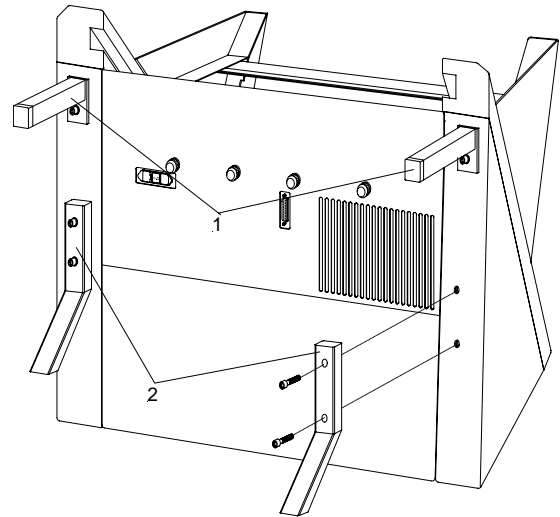

Fig. 5a
- Adjust the handles of the cryostat (fig. 5a.1 and 5a.2) on the rear side of the cryostat stage.